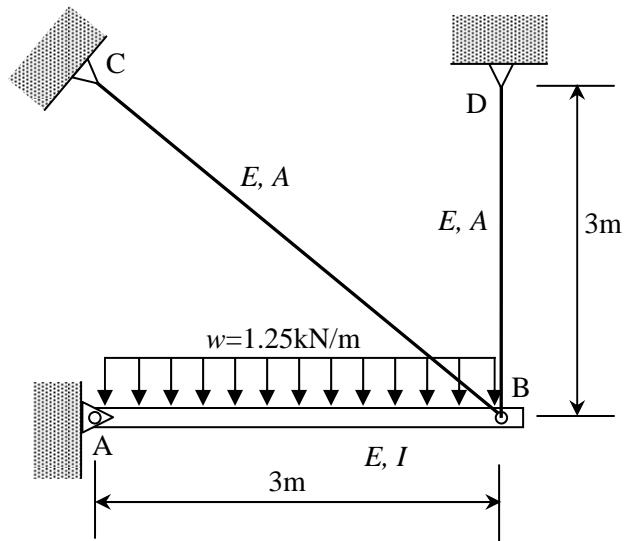
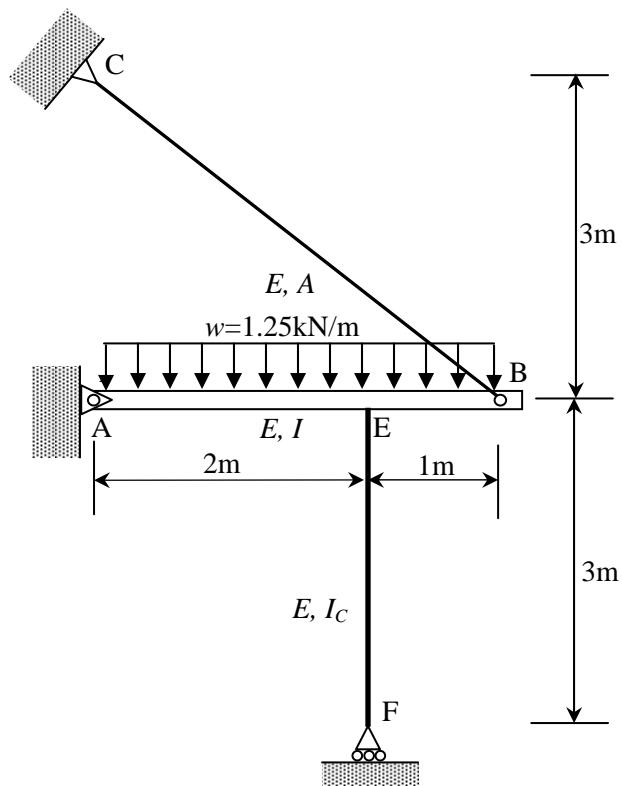

Figure 4
Figure 5 / Rajah 5
2. (a) Figure 4 shows a hinged beam suspended at point B by two cables. The beam carries a uniformly distributed load $w=1.25\text{kN/m}$. Determine the reactions at support A and tension forces in cables BC and BD. Use method of least work. Neglect the effect of axial deformation of beam AB on deflection. It is given that: section moment inertia I for beam AB is $190\times10^6\text{mm}^4$, cross-sectional area A for both cables BC and BD is 150mm^2 , Young's modulus E for beam and cables is 205GPa .
- (b) It is found that cable BD shown in Figure 4 has failed to function and hence not able to carry load. The following modification as shown in Figure 5 has been suggested as a possible solution to reduce deflection at free end B due to failure of cable BD. The newly added vertical member EF is rigidly connected to beam AB at E and supported by a roller support at F. Data for E and I_C for member EF are as follows: $E=205\text{GPa}$, $I_C=1.15\times10^6\text{mm}^4$. Determine the axial force in member EF and cable BC. Use method of least work. Neglect the effect of axial deformation of both beam AB and vertical member EF on deflection.